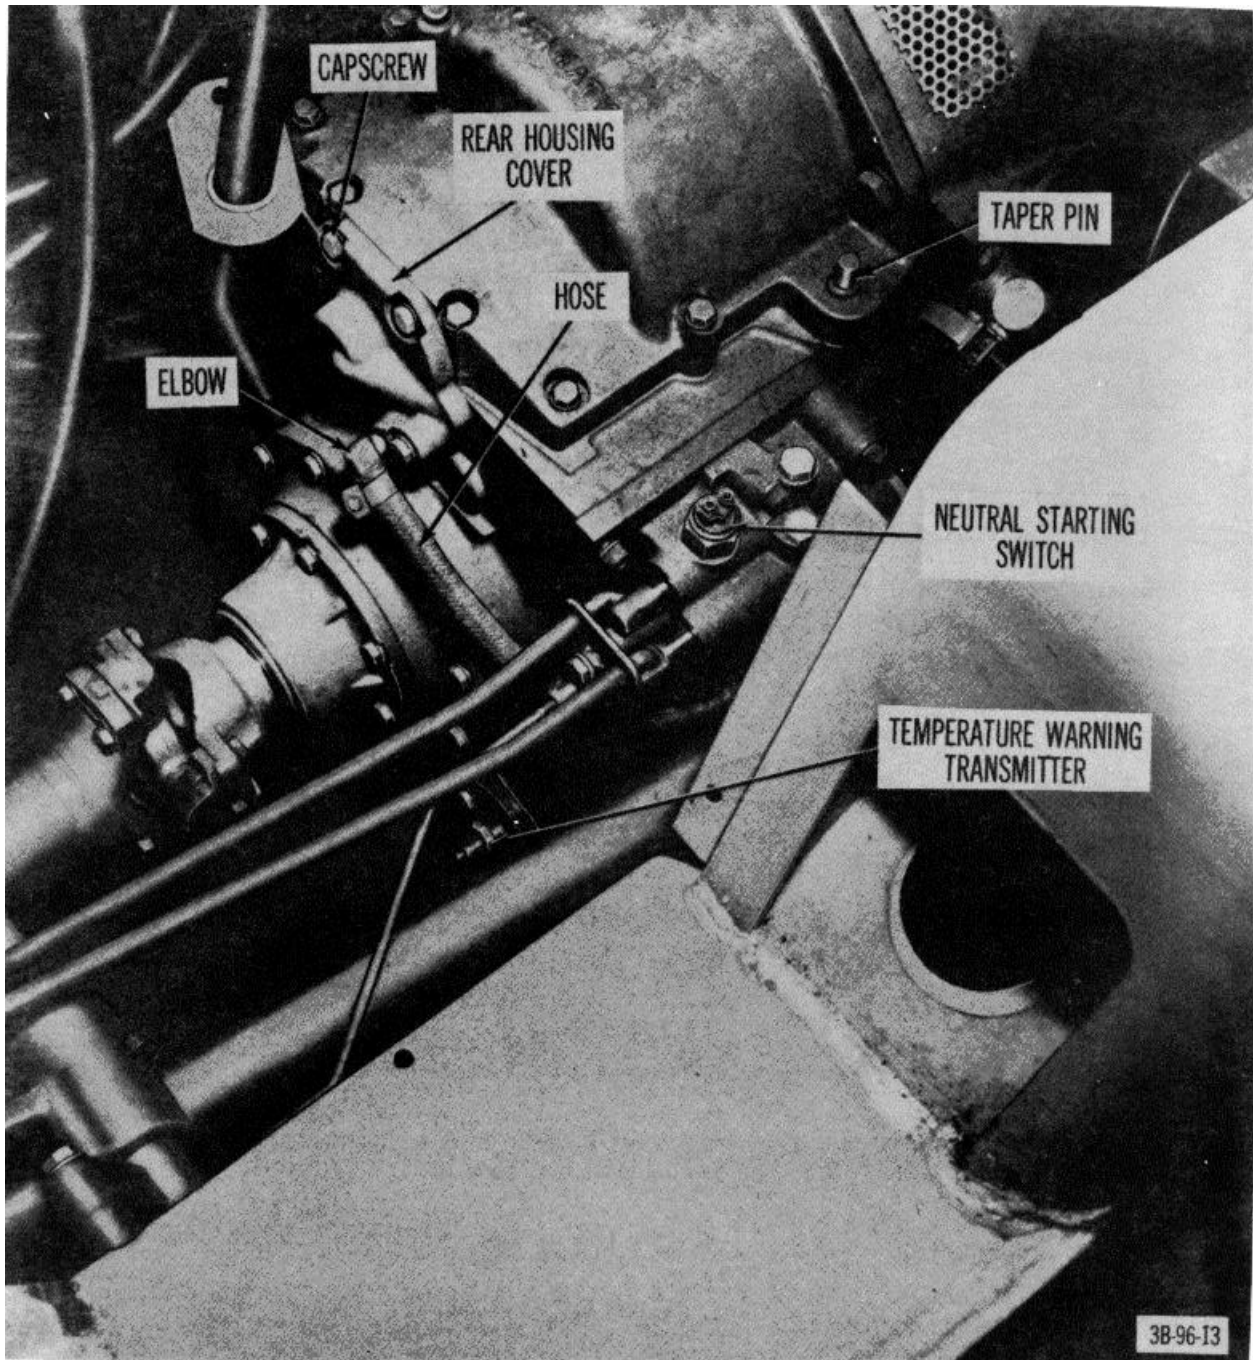

Figure 25. Overhead side view of transmission and linkage, installed on truck.
- (1) Drain transmission.
- (2) Disconnect drive shaft (par. 45).
- (3) Disconnect transmission linkage at control valve (TM 10-3930-222-20).
- (4) Disconnect inching pedal linkage (TM 10-3930-222-20).
- (5) Disconnect temperature warning transmitter (fig. 25).
- (6) Disconnect neutral switch connection (fig. 25).
- (7) Disconnect hydraulic hose at the elbow on the rear housing cover (fig. 25).
- (8) Remove wiring harness.
- (9) Remove the retaining nut from the bottom of the taper pin (fig. 25).